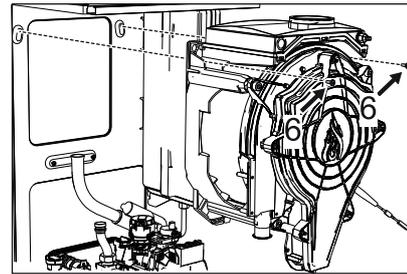

fig. 58 -
- Loosen the two upper screws "6" fastening the exchanger to the frame ("fig. 58 -")